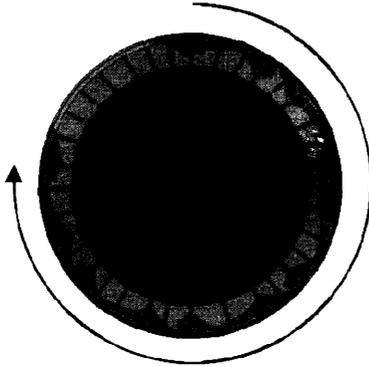

FIGURE 6
STEP 5: HOOK TO THE V-RING AS ORDER AS FIGURE 6